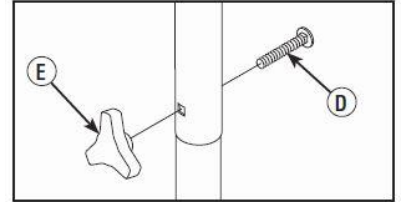

Fig. 2
2. Insert carriage bolts (D) through holes from outside of unit and attach a plastic knob (E) from inside of unit. Tighten by hand. (See Fig. 2)